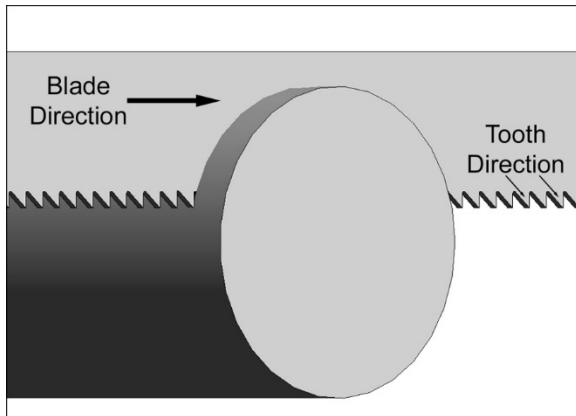

Figure 7-3
5. Place new blade between blade guide assemblies and around each wheel. Make sure blade teeth are pointing in proper direction (see Figure 7-3).